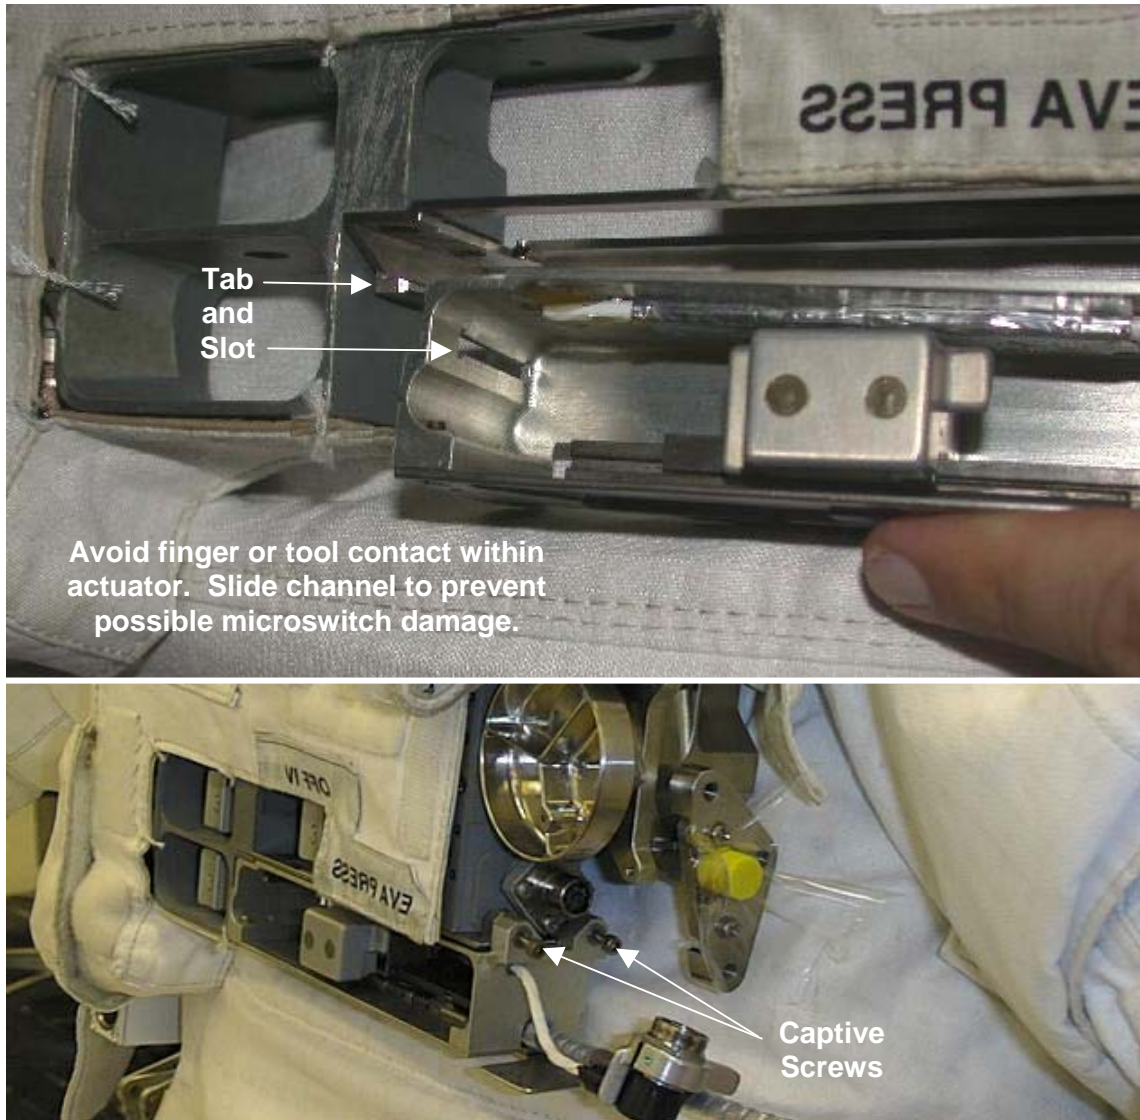

Figure 1.- O2 Actuator Installation.
2.	Avoid contact with the microswitches within the microswitch assembly of the O2 actuator Refer to Figure 1.
3. Install O2 actuator on DCM by aligning the slot with the tab on the alignment bracket as shown in Figure 1.